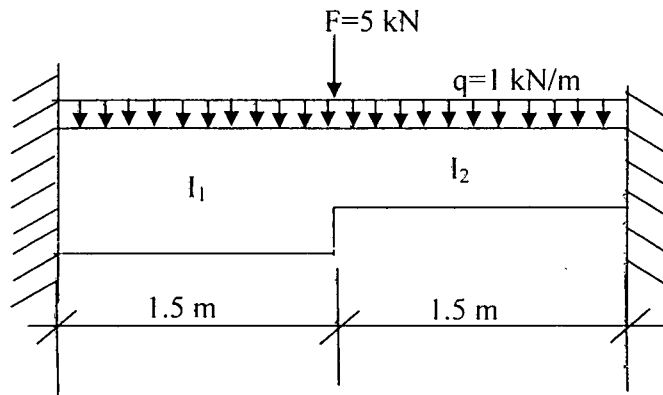

Fig. 13a
- 13 a) For the beam shown in Fig. 13a, compute the deflection and slope at its mid point. $E = 200 \text{ GPa}$, $I_1 = 2 \times 10^{-5} \text{ m}^4$, $I_2 = 1.5 \times 10^{-5} \text{ m}^4$ (Use finite element approach) (16)